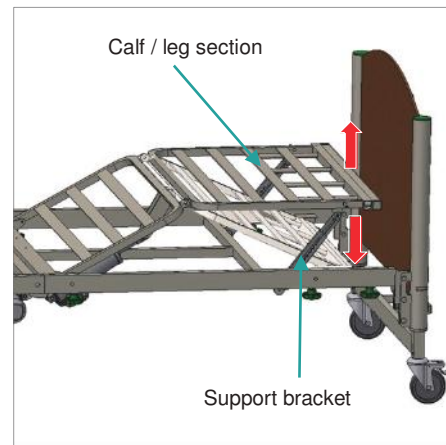

Figure 14: Lowering manual calf section
- To lower the calf/leg section (from raised height), fully raise calf/leg section manually and then gently lower it down (*Figure 14*). Then press and hold the Down Knee-Break Adjustment Button on the handset.